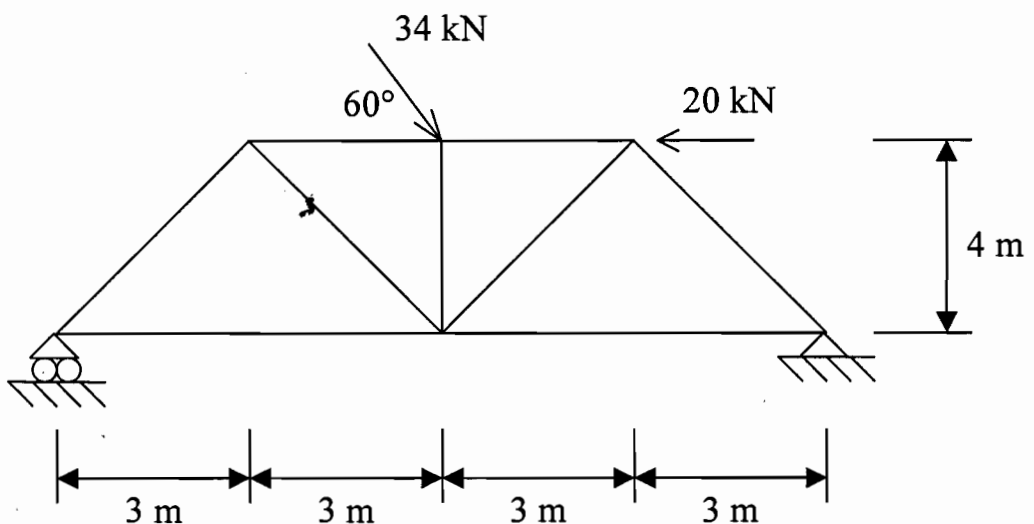

Figure Q1
1. (a) Determine the support reactions and calculate the forces in all the members of the pin-jointed truss shown in Figure Q1. (20 marks)